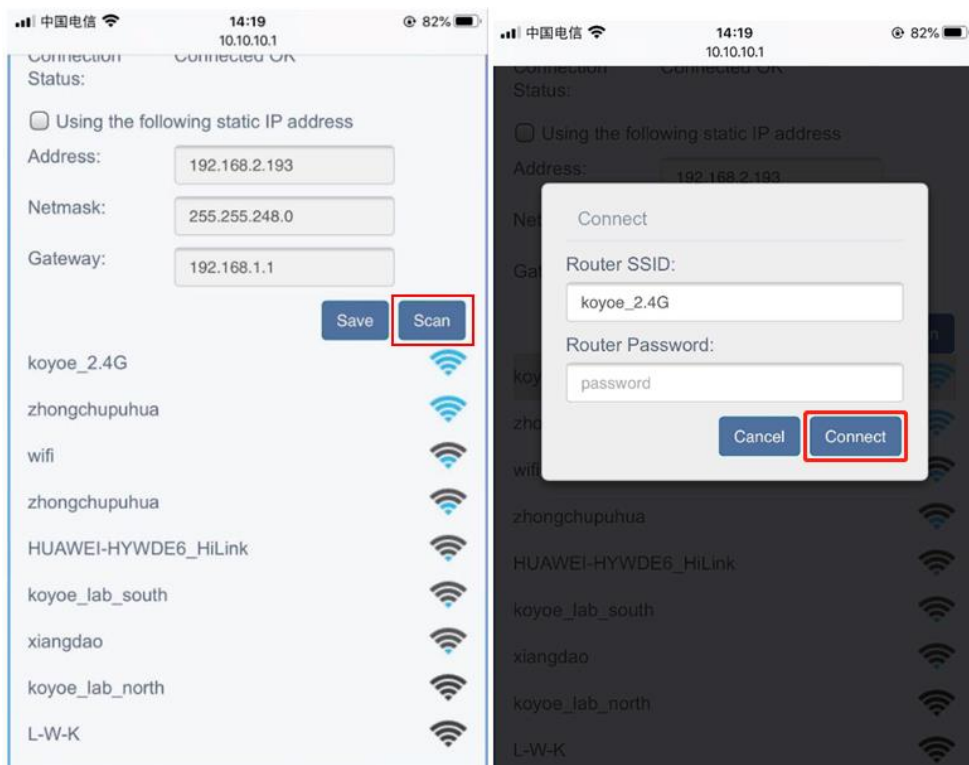

Figure 11-4
- 2) Click the "scan" button, and the router WiFi hotspot list will appear.Then select the WiFi hotspot, enter the password and click "connect".The method is shown in Fig11-4.
- 4) Enter the user name and password to log in, and the user can monitor the voltage, current and power of the inverter. (GPRS module only needs to fill in the SN code in Figure 11-4, and then click Register to monitor the data without the previous steps)